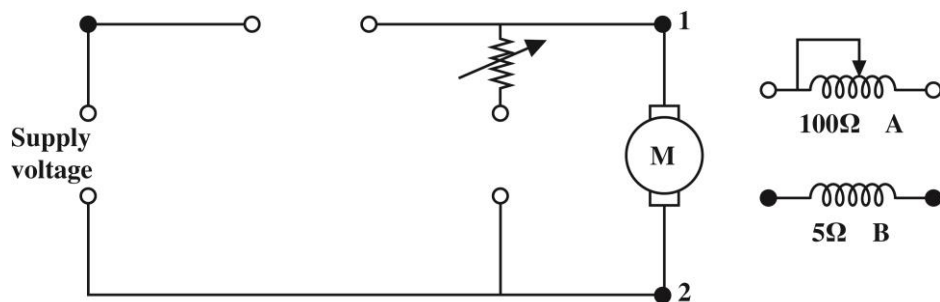

Figure 1
- (b) Figure 1 shows the incomplete sketch of a compound wound direct current motor circuit. The missing windings are shown separately.